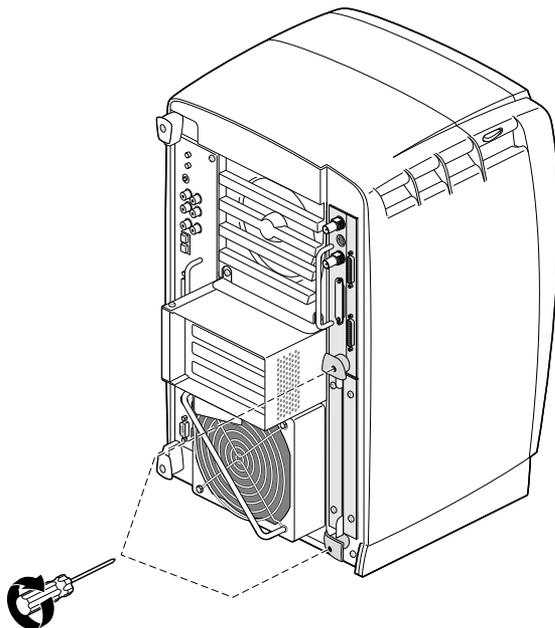

Figure 1-24 Tightening the XIO Tri-Module Screws
6. Tighten the captive screws in the sliding handles, as shown in Figure 1-24.